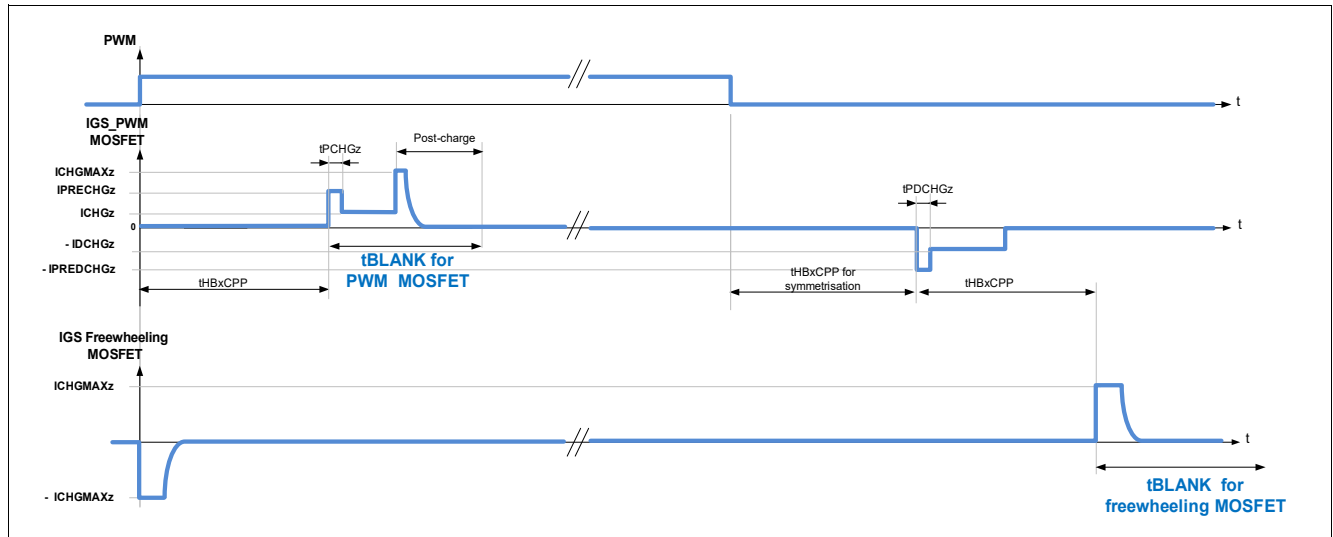

Figure 53 Blank time for half-bridges in PWM operation with $AFW = 1$
- the blank time of the PWM MOSFET starts at the expiration of the cross-current protection time of the PWM MOSFET. Refer to Figure 53.
- the blank time of the free-wheeling MOSFET starts after expiration of the cross-current protection time at turn-off of the PWM MOSFET. Refer to Figure 53.